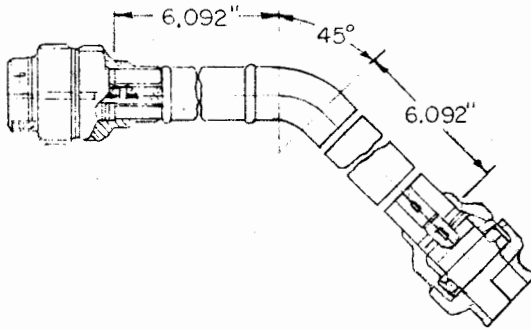

Figure 11-70. 45 Degree Elbow
- d. 45-degree elbow coupling (see Figure 11-70).